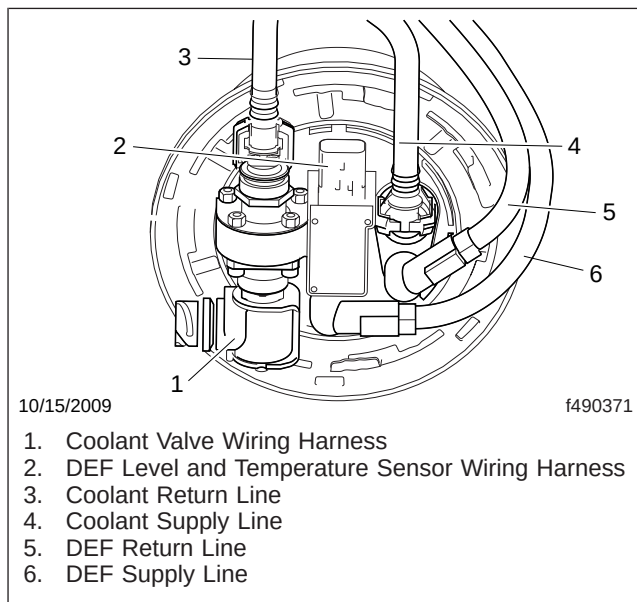

Fig. 4, DEF Tank Header Unit (Detroit Diesel shown)
7. Disconnect the coolant valve and DEF level and temperature sensor wiring harnesses from the tank header unit. See Fig. 4.